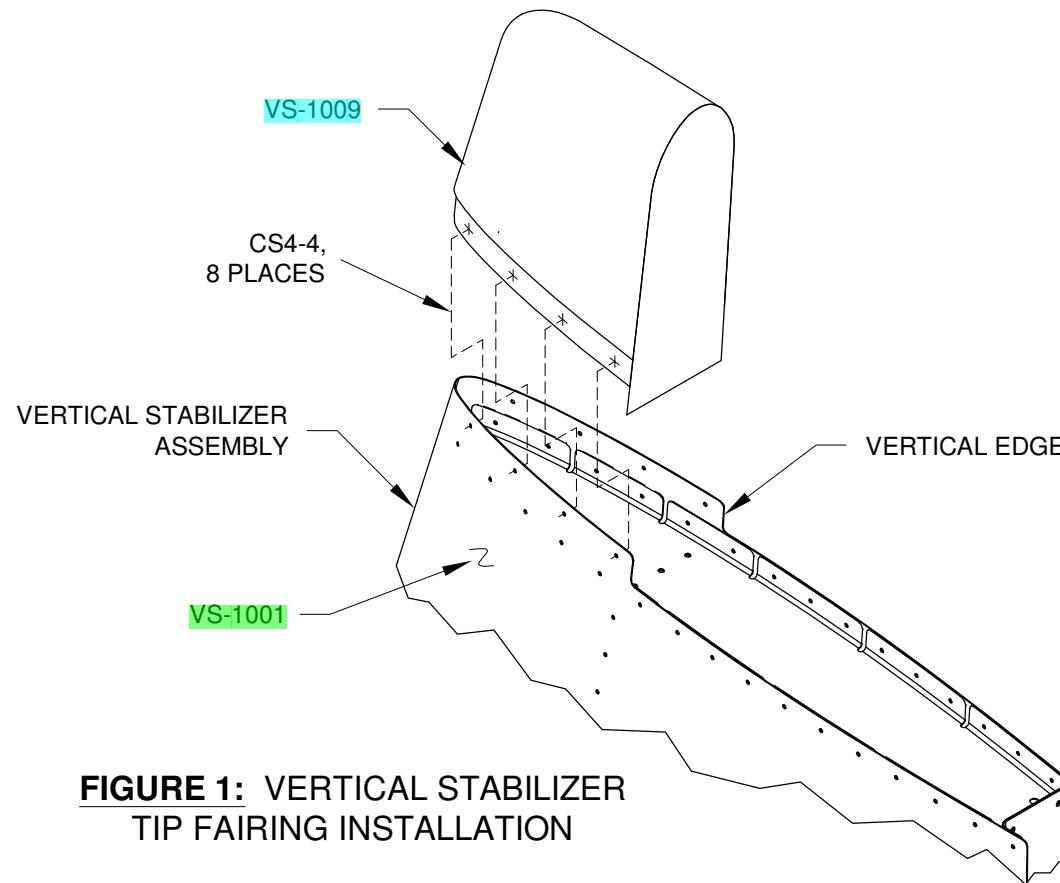

FIGURE 1: VERTICAL STABILIZER TIP FAIRING INSTALLATION
Step 1: Trim the width of the molded flange on the **VS-1009** Vertical Stabilizer Tip Fairing if required to meet the dimensions given on Page 12-2, Figure 1. Trim away the aft edge of the vertical stabilizer tip fairing so the aft edge is parallel and flush with the vertical edge on the **VS-1001** Skin as indicated in Figure 1. This will provide a minimum 1/8 inch gap between the aft face of the vertical stabilizer tip fairing and the forward face of the rudder counterbalance arm.
Step 5: Cleco and rivet the **VS-1009** Vertical Stabilizer Tip Fairing onto the vertical stabilizer assembly per the callouts in Figure 1.